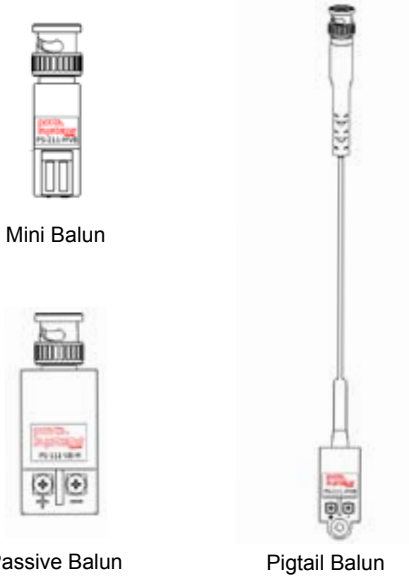

Figure 1.
2. Connect the UTP cable to the corresponding "+" and "-" screw terminals or IDC snap terminals. This unit is polarity sensitive (See Figure 1).